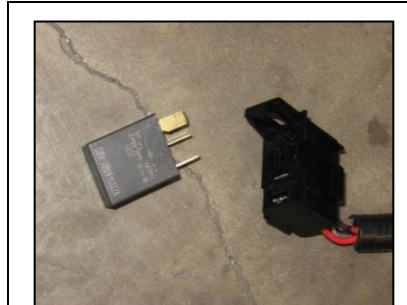

Figure 14
1. Remove the Fuel Pump Relay from the DFT harness. Place the relay in the glove compartment. The relay will be re-installed with the module in Section VI. (See Figure 14.)